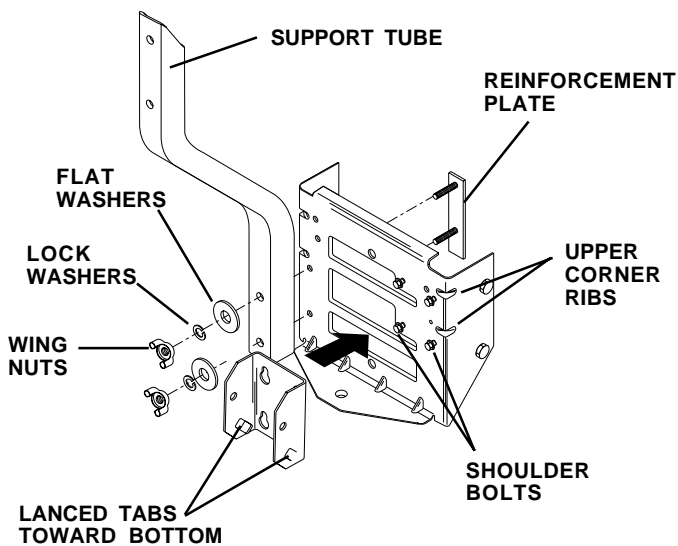

FIG. 1A
(See Figs. 1A, 1B & 1C)
**NOTE:** If your tractor already has four (4) shoulder bolts installed on the rear drawbar, simply hang the mounting bracket, lanced tabs towards bottom, on the bolts (See Fig. 1A).